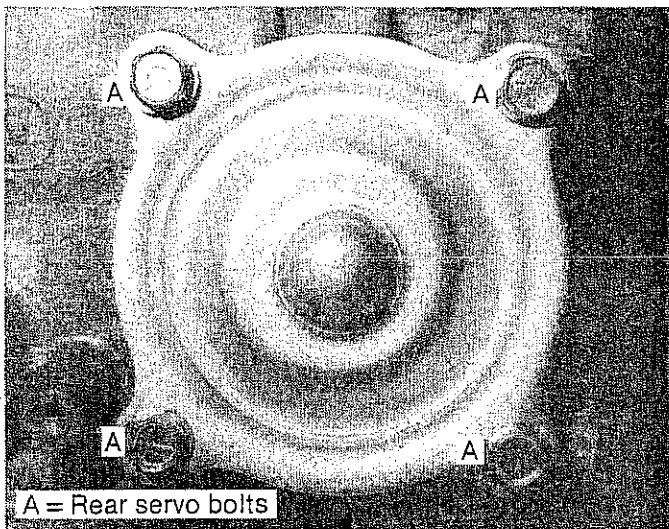

FIGURE 24
STEP 15. Remove four low-reverse servo bolts. (See Fig. 24) Remove servo cover, piston and spring. Remove and discard O-ring on servo cover. Note: The piston seal is molded into place and is not removable. Set the servo aside.